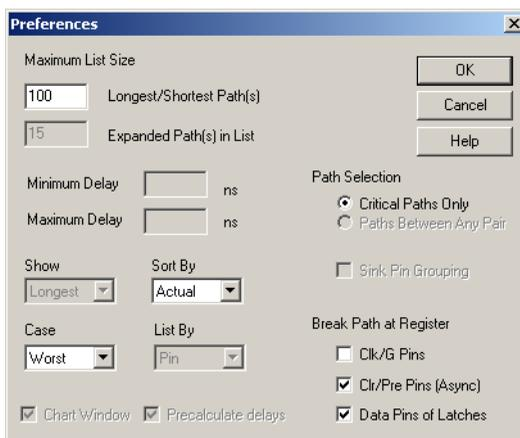

Figure 2-11. Preferences Dialog Box
- 2. For additional Timing Report Options, click the *Options* button.** This displays the Preferences dialog box, as shown in Figure 2-11.
- 3. Select analysis preferences.** The default settings are shown in Figure 2-11. You have the following options for your Timing Report: